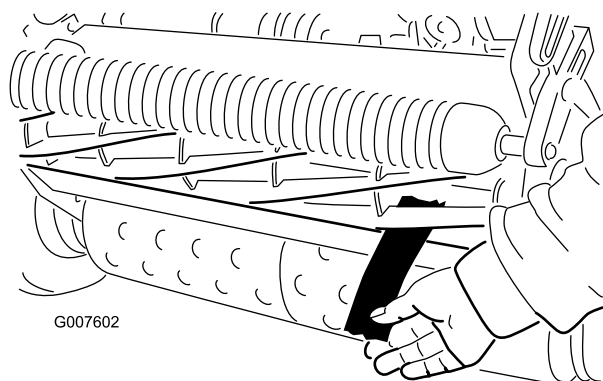

Figure 36
4. On one end of the front side of the reel, insert a long strip of newspaper between the reel and bedknife (Figure 36). While slowly rotating the reel forward,
6. After the adjustment is accomplished, check to see if the reel can pinch paper when inserted from the front and cut paper when inserted at a right angle to the bedknife (Figure 36). It should be possible to cut paper with minimum contact between the bedknife and the reel blades. Should excessive reel drag be evident (more than 7 inch-lb (0.79 N-m)), either backlap or grind the cutting unit to achieve the sharp edges needed for precision cutting; refer to the Toro reel sharpening manual.